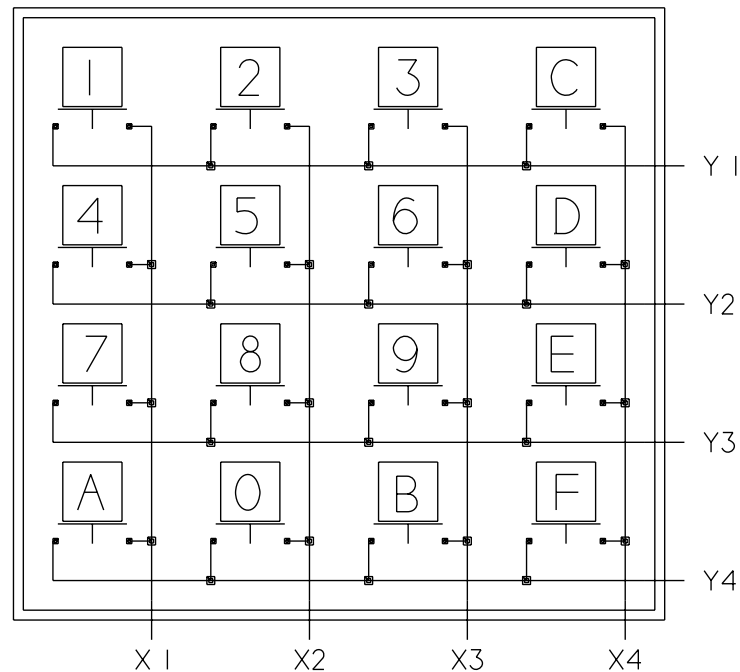

Figure 7-7. A matrix-encoded keypad.
Other keypads use matrix encoding, where the switch connections are arranged in a rectangular array. Figure 7-7 illustrates a typical hex keypad that uses matrix encoding. There are four rows (Y) and four columns (X) to which the switches connect. Each key corresponds to a hexadecimal digit.
In this keypad, each key acts as a normally open pushbutton whose contacts connect one row and one column when the key is pressed. In Figure 7-7, pressing key #1 connects Y1 and X1, pressing key #2 connects Y1 and X2, and so on down to key #F at Y4, X4. By determining which row and column are connected, you can detect which key has been pressed.
Matrix encoding saves on hardware, since each key doesn't require a dedicated signal line. With Figure 7-7's keypad, you can detect any of 16 key presses with 8 signal lines. Sixteen keys is a popular size for keypads, but larger and smaller sizes are also available. Telephone-
In a matrix-encoded keypad, the usual way to detect a keypress is with scanning circuits. In Figure 7-7's keypad, rows Y1-Y4 could be tied high through pull-up resistors. Columns X1-X4 could then be scanned, or brought low in sequence. As each column goes low, the logic level at each row is checked, repeating until a row goes low, indicating that a key is pressed.